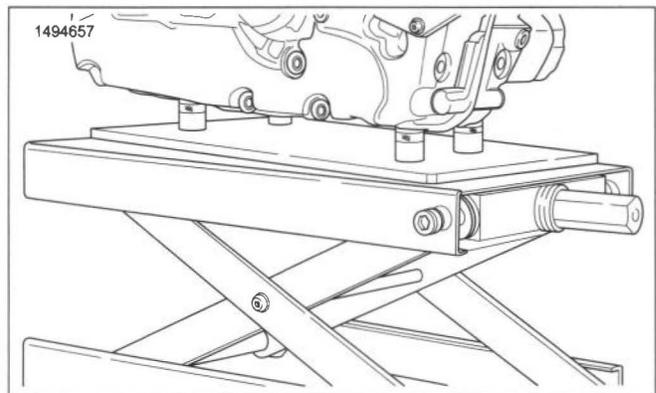

Figure 4-84. Powertrain on Flat Jack
- a. See Figure 4-84. Lower flat jack. Make sure engine support plate and flat jack do not bind.